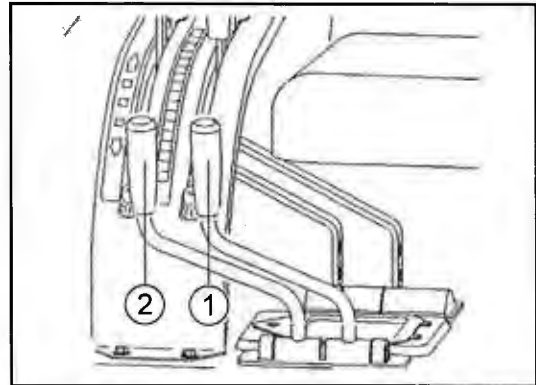

Fig. 25-2 - Remote Control Valve Levers
It is possible to vary the oil flow to the couplers using the remote control valve levers, the outside lever (1) and the inside lever (2) as follows: (See Fig. 25-2).